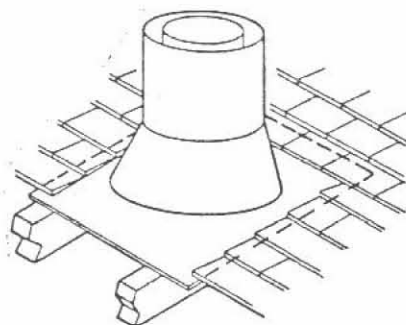

Figure 34
**Step 7:** Secure flashing by nailing along perimeter into roof using 8d nails. If shingled roof, slide upper end and sides of flashing under shingles (trim if necessary) (Figure 34), seal the top and both sides of the flashing to the roof with roof caulking. Cover nail heads with roof caulking.